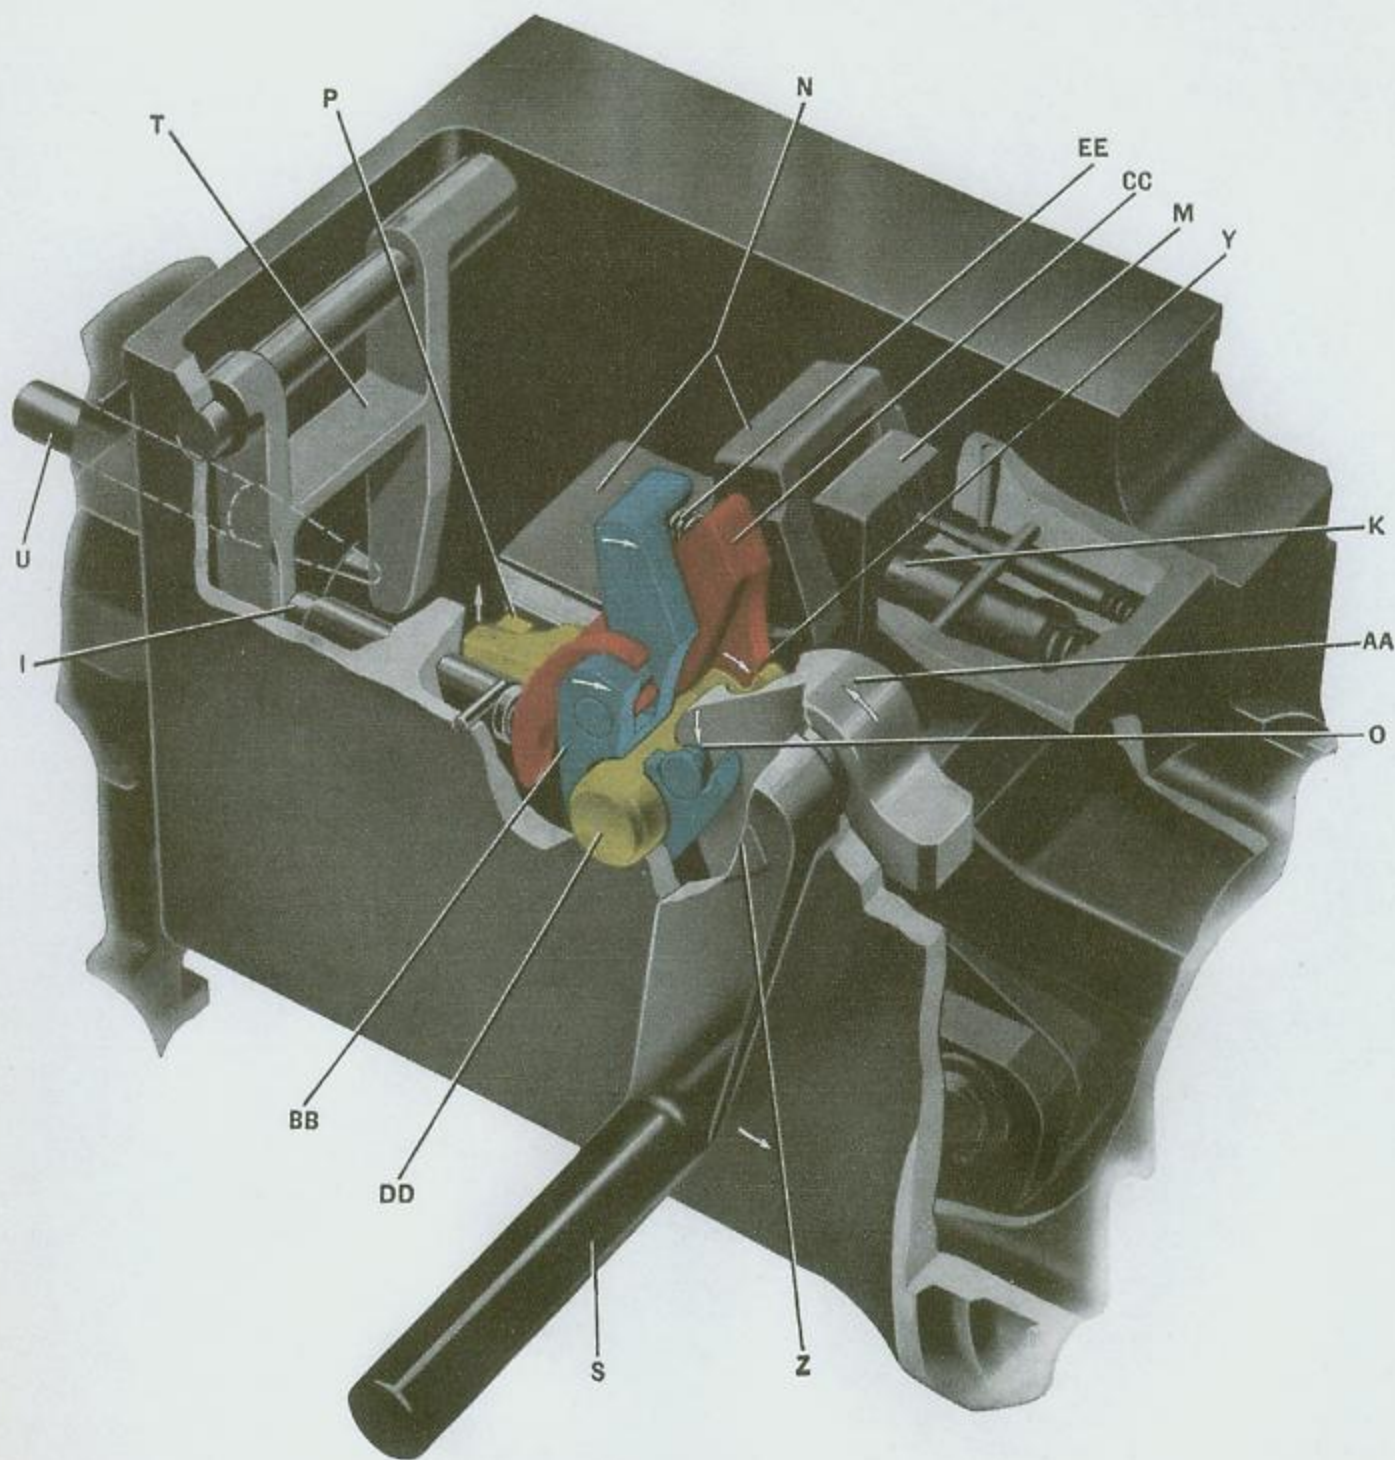
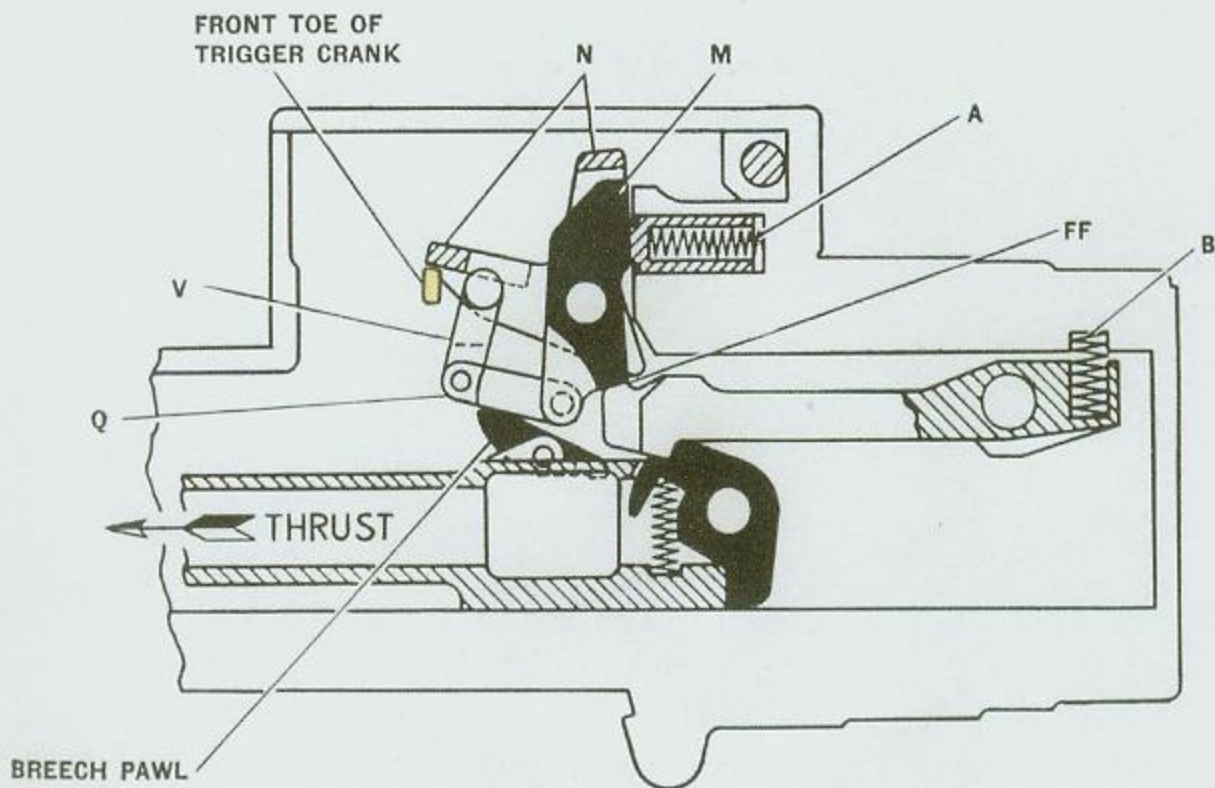
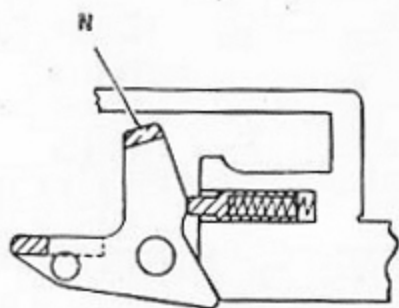

Figure 26—Trigger action on parallelogram
Figure 28—Recoiling mass about to be released to fire the gun, the parallelogram being moved by trigger crank
Figure 30—Action of spring plungers against parallelogram top lever
When firing, the pressing of the trigger (S) Figure 26, turns the trigger retaining bolt (Z) in a counterclockwise direction. The trigger intermediate lever (AA) is on the trigger retaining bolt (Z) and is also turned. A recess in this trigger intermediate lever (AA), Figure 26, engages a pin on the trigger pawl holder (Blue) and, as illustrated, this trigger pawl holder is made to turn on its axis in a clockwise rotation.
The trigger pawl holder (Blue), Figure 26, has an axis pin (also blue), and on it is placed the trigger pawl (Red). In between the pawl holder (Blue) and the pawl (Red) is a spring (EE) that is under compression in order to keep a toe on the pawl (Red) in engagement at point (Y) with a notch on the trigger crank (Yellow). As stated above, pressing the trigger turns the trigger bolt (Z), Figure 26, counter-clockwise; the trigger intermediate lever (AA), Figure 26, being on the same bolt is also turned counterclockwise; the recess (O) in the trigger intermediate lever (AA) turns the pawl holder (Blue) clockwise and carries the trigger pawl (Red) with it as a unit. As stated above, the toe of the trigger pawl is in engagement with the notch on the trigger crank and, therefore, when the trigger pawl is rotated clockwise the trigger crank also is rotated clockwise.
At the front end of the trigger crank (Yellow) is another toe that lies under a lip at point (P) of the parallelogram top lever (N). Movement of the trigger crank (Yellow) pushes up the front end of parallelogram top lever (N) causing it to rotate about its axis pin and forcing the parallelogram to slew into the position shown in Figure 28. Parallelogram bottom left and right levers (Q), Figure 28, are rotated about their axis on the parallelogram rear lever (M). The front end lugs (Q) of parallelogram bottom levers that
were bearing against the breech pawls, Figure 28, are now disengaged. The attempt of the trigger hook to disengage itself from the recoil sear, is now about to be realized because the levers (Q) cannot restrain it, inasmuch as they are freed of the breech pawls and barrel spring. Levers (Q) can now go to the right, thus forcing lever (M) counterclockwise. Springs also assist in this action as follows:
Parallelogram Rear Lever Plunger Spring (A), Figure 28
The trigger pawl (Red), Figures 26 and 27, is on an axis pin in a trigger pawl holder (Blue). In between the pawl holder and the pawl is a spring (EE), Figure 26, that is under compression in order to keep a toe on the pawl (Red) in engagement at point (Y) with a notch on the trigger crank (Yellow). During the firing travel of the trigger pawl it remains in engagement with the trigger crank (Yellow).
Releasing the trigger allows the trigger intermediate lever (AA), Figure 26, trigger pawl holder (Blue), trigger pawl (Red), and trigger crank (Yellow) to return to the position shown in Figure 26. The parallelogram top lever (N) is lowered by its plunger spring, Figure 30. This drops parallelogram front lever (V),
tom levers (Q) forward. This movement rotates the parallelogram rear lever (M) clockwise causing a face on it to press on the toe (FF), Figure 26, of the trigger hook forcing it down into engagement with the recoiling sear. The breech block mass is thus intercepted and held in the cocked position. See Figure 28, "Recoiling mass in cocked position."